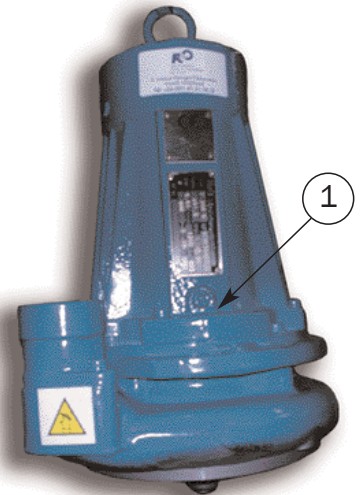

Fig 7.4
Unscrew motor inspection screw (see Fig.7.4. pos. 1).